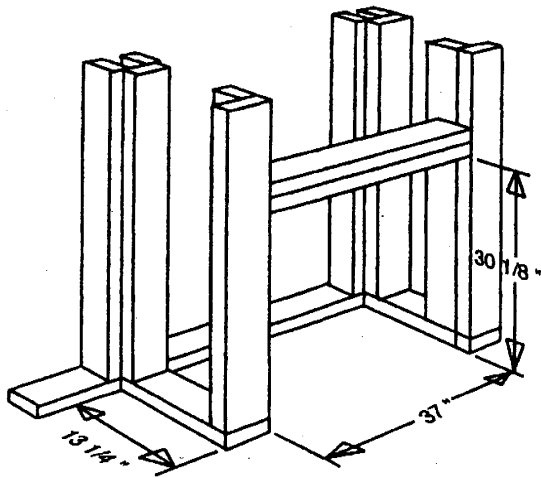

FIGURE 3
4. Use studs to frame an opening of 37" wide X 30 1/8" high (94cm wide X 77cm high) allowing a depth of 13 1/4" (34cm). (Refer to FIGURE 3 as an example.)